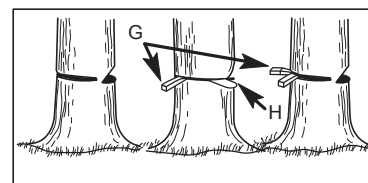

FIG. 2
- Use wooden or plastic wedges (G Fig.2) to prevent the bar or the chain from getting lodged in the trunk.